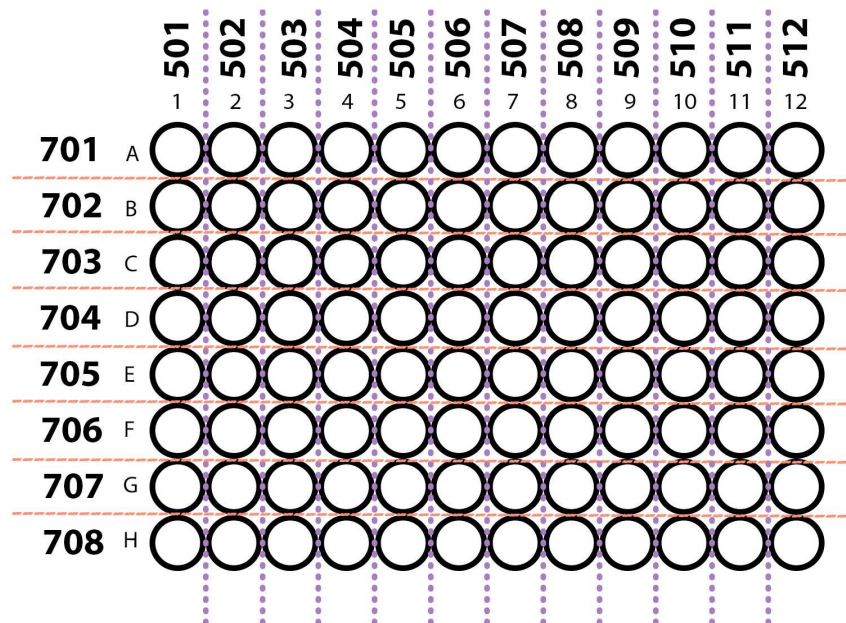

Figure 2. Each well receives a unique P5L-P7L primer combination.
74.3 To a new 96-well PCR plate, add 5 μL of each P5L primer to individual columns and 5 μL of each P7L primer to individual rows (one P5L primer per column, one P7L primer per row). Each well contains the PCR Primer Mix for the corresponding well in the sample plate. (Fig. 2)